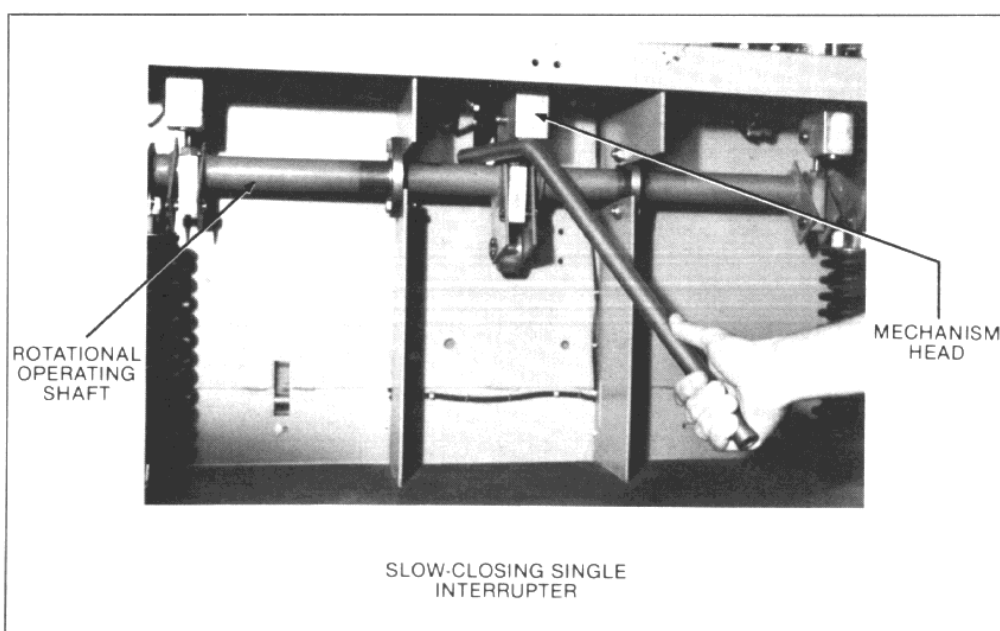

Figure 9
- c) Position the manual charging lever so that it rests on the rotational operating shaft and under the operating mechanism head of the bottle being evaluated (Figure 9).
5. Using the manual operating handle as shown in Figure 9, operate the mechanism head upward until